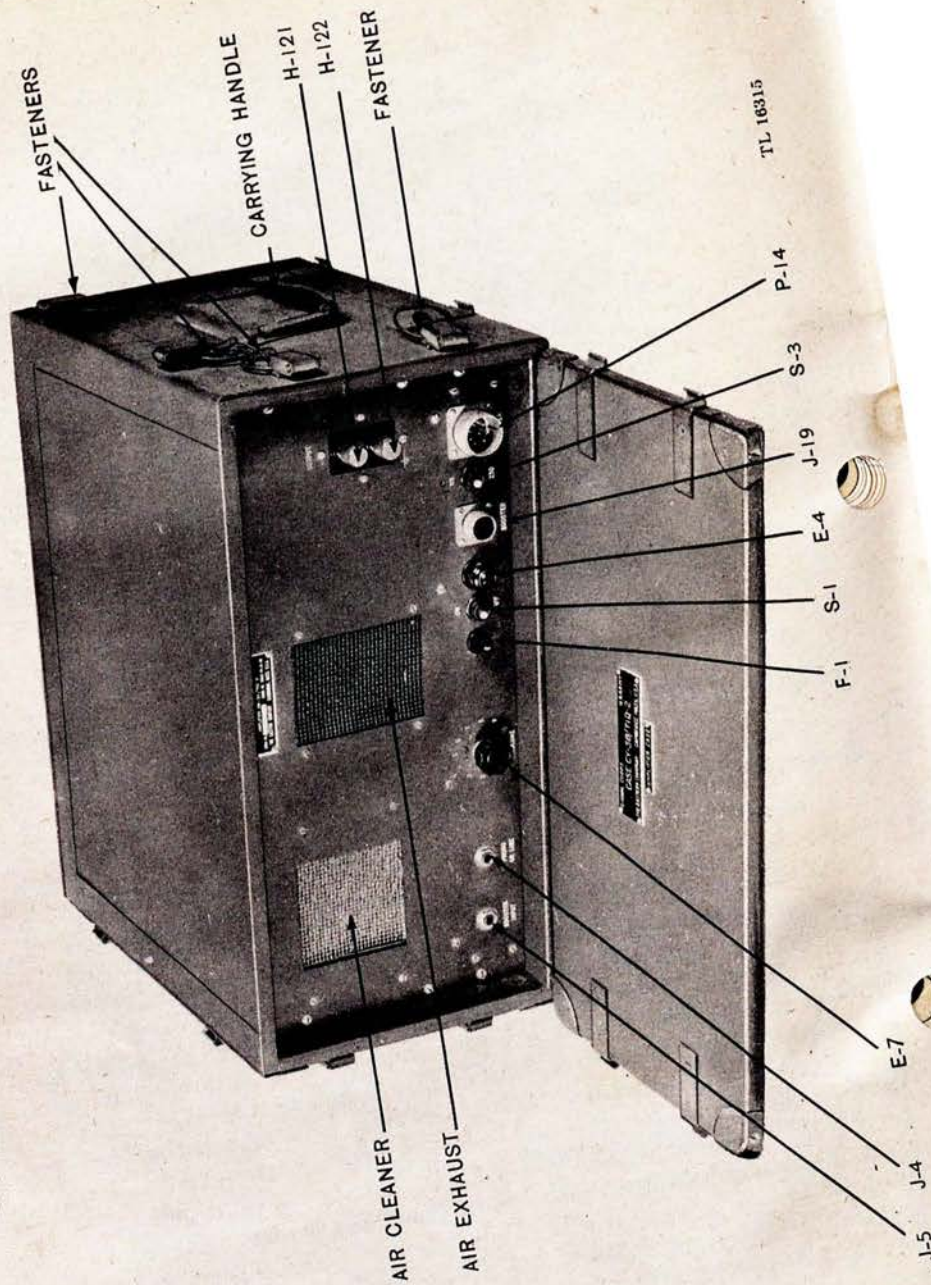

Figure 3. Amplifier AM-34/TIQ-3 and Case CY-38/TIQ-2.
b. Amplifier AM-34/TIQ-3 (fig. 3). The amplifier unit is fastened by six screws in a Case CY-38/TIQ-2 marked AMPLIFIER. This case is identical with the case containing the control unit (subpar. a above) except for the marking. All control knobs, switches, power, input, and output connectors necessary to the operation of the amplifier are mounted on the front panel. This unit amplifies the output voltage of the control unit. The output of the amplifier is connected back to the control unit for distribution. The tubes in the amplifier unit are cooled by an electrical blower unit. The circuit of the amplifier is described on a label mounted on the inside of the base plate of the amplifier unit.